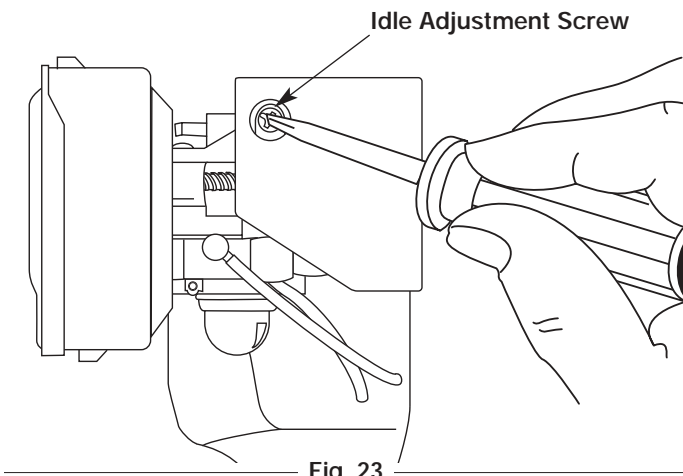

Fig. 23
The idle speed of the engine is adjustable. An idle adjustment screw is reached through a hole in the top of the engine cover (Fig. 23).
2. Release the throttle trigger and let the engine idle. If the engine stops, insert a small phillips or flat blade screwdriver into the hole in the air filter/muffler cover (Fig. 23). Turn the idle speed screw in, **clockwise**, 1/8 of a turn at a time (as needed) until the engine idles smoothly.